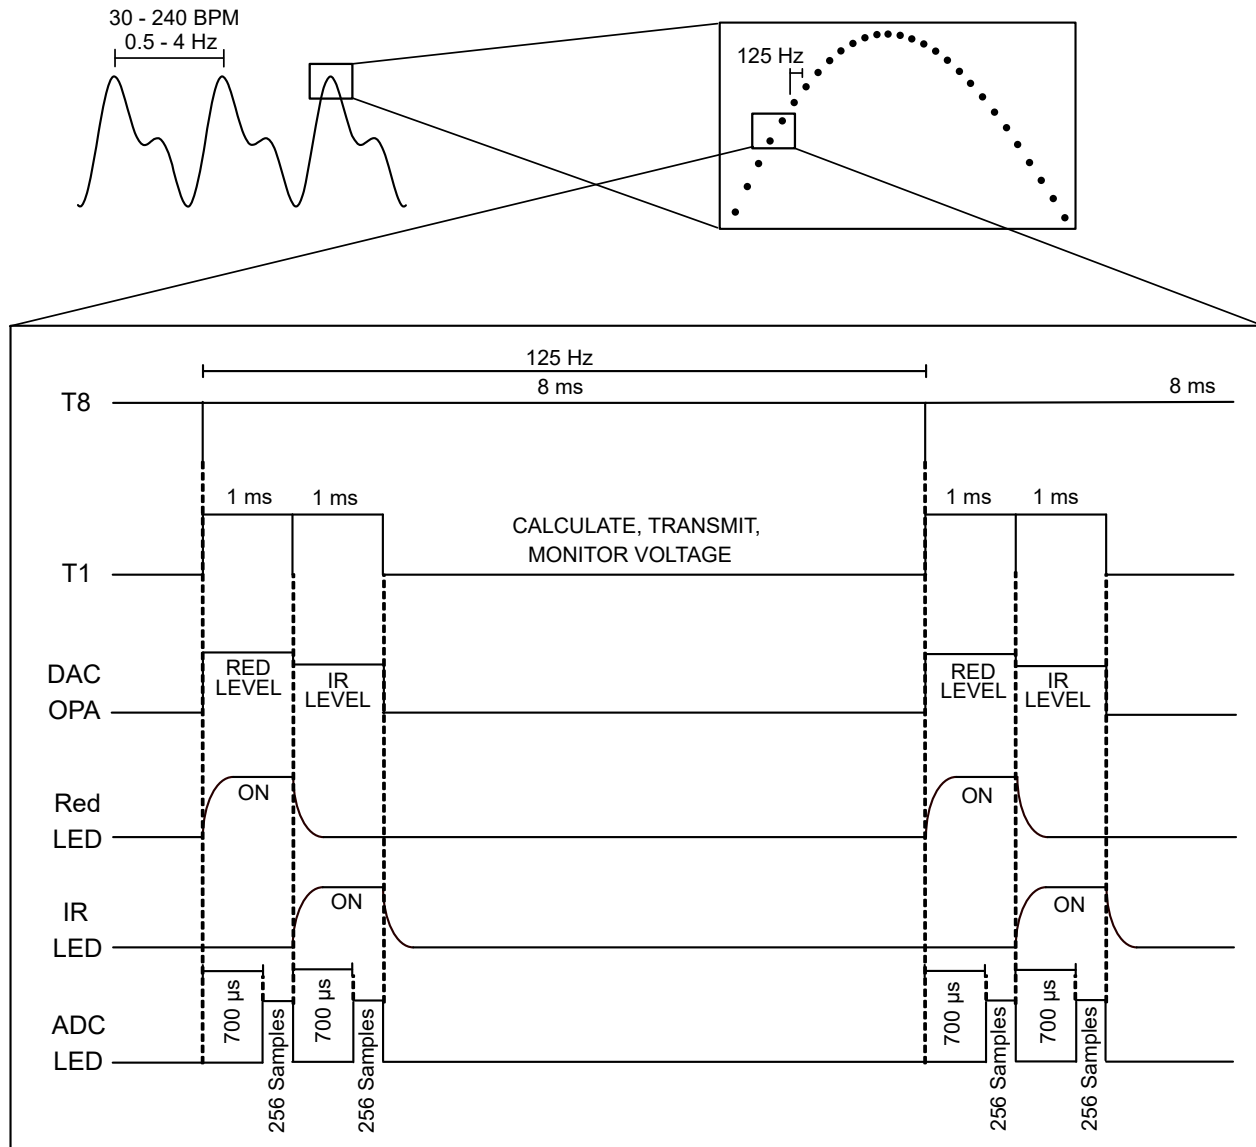

Figure 2-5. TIDA-010267 Timing Diagram
In TIDA-010267, the photodiodes signal, in the form of a current on the order of nano-Amps is converted to a voltage and amplified to fit in the range of the ADC of the MSPM0L1306. This is achievable using the low input bias current of the integrated OPA, allowing the design to utilize the OPA as a TIA, as shown in Figure 2-5. Using the MSPM0L1306 voltage input as a reference for the high-speed ADC, the converter can more rapidly sample, which allows for oversampling and reduced LED on-time. An internal voltage monitoring feature in between samples, allows the MSPM0L1306 to quantify the level of the incoming signal and adjust parameters accordingly. Further features, such as internal temperature sensing, are also possible.
Figure 2-5 illustrates the coded timing structure for pulse oximeter operation.
- During the 8-ms period between captures, which is managed by the TIMG0 block (named T8) of the MSPM0L1306, Figure 2-5 details the operational status of several components involved in obtaining the photodiode sample.